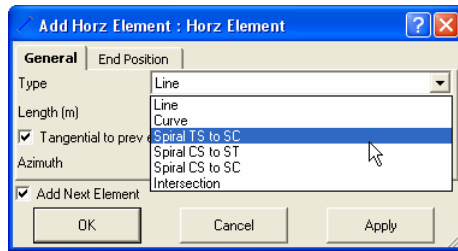

Figure 9-49. Select Spiral Direction
1. To add a spiral, click **Add Horz Element** and select the direction of the spiral in the *Type* field drop-down entry box of the **Add Horz Element** dialog box (Figure 9-49 on page 9-35).